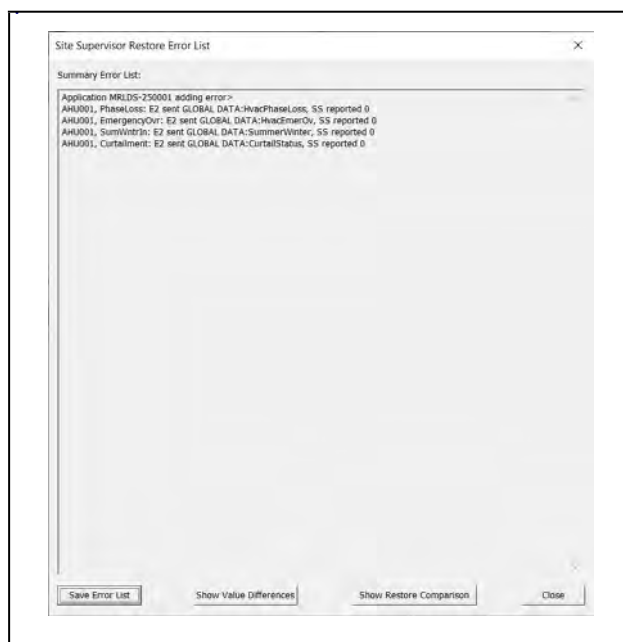

Figure G-13 - Site Supervisor Restore Error List
supervisory controller using UltraSite. The conversion tool can be expected to convert 80% or more of your E2 backup file. The conversion process will take between 10 to 20 minutes depending on the complexity of the backup file. You must do a side-by-side comparison of the E2 backup file and the newly converted Supervisor file to verify there are no errors. It will be necessary to review all setpoints and alarms for consistency in addition to the error log report and restore comparison log (see **Figure G-13**) that is generated at the end of the conversion process to ensure your new system will run properly. Licensed features and 3rd-party integrations will not convert if your new controller does not have the licenses or features installed. Note that some complex schedules and Flex Combiners may not be converted.
7. When completed, a **Site Supervisor Restore Error List** (Figure G-13) will display and contain a Summary Error List of any of the following: